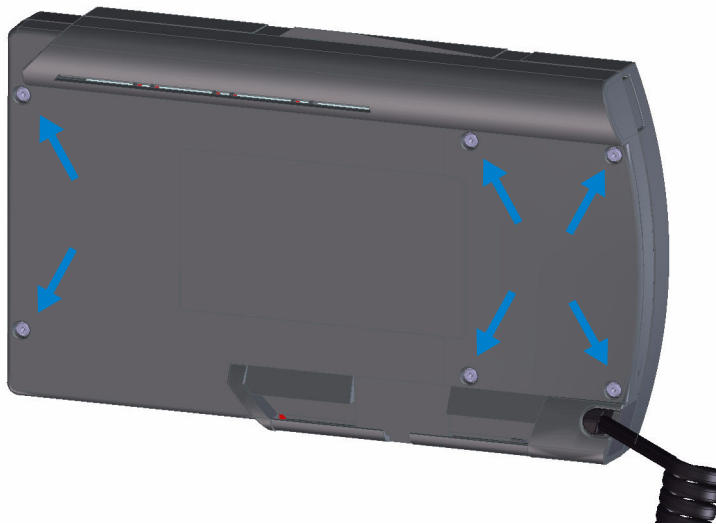

Figure 108 Rear Panel - location of screws
- 1 Place the Instant Pilot face down on a bench (as shown in Figure 108).